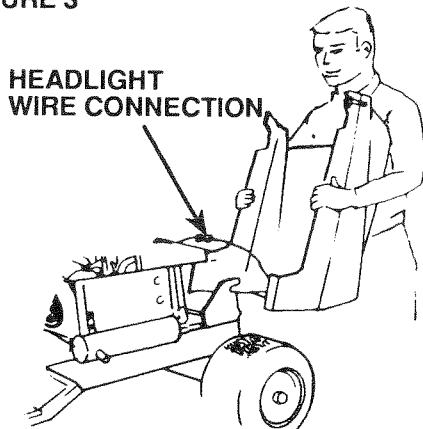

FIGURE 4
- Disconnect Headlight Wiring Harness (Fig. 4).
- Pivot Hood Assembly forward and remove from Tractor (Fig. 4).